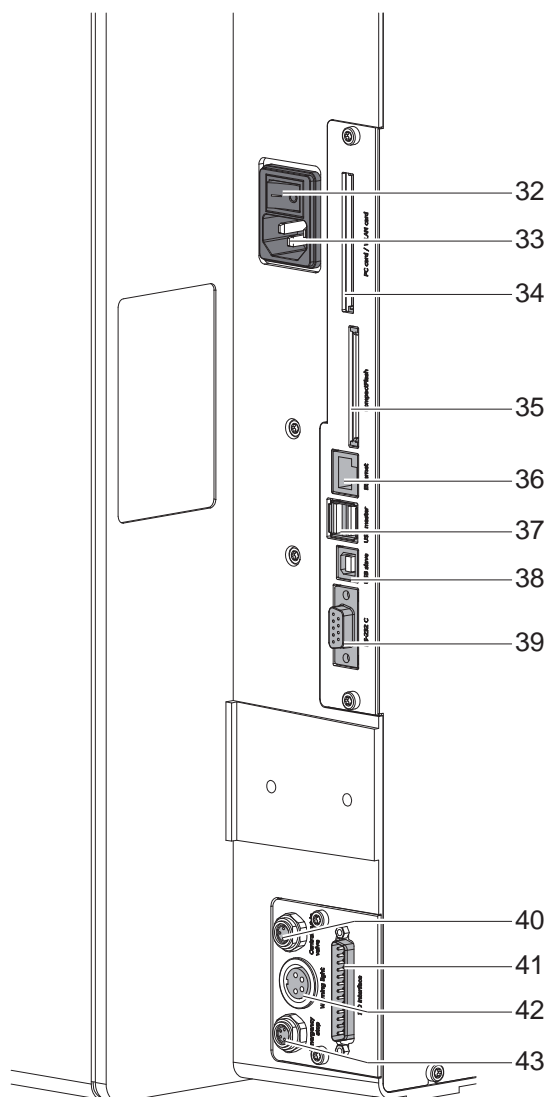

Figure 4 Connections
The standard available interfaces and connectors are shown in Figure 4 on page 8.
2. Plug the power cable into the power connection socket (33 / Figure 4).
- Switch the printer on at the power switch (32 / Figure 4).